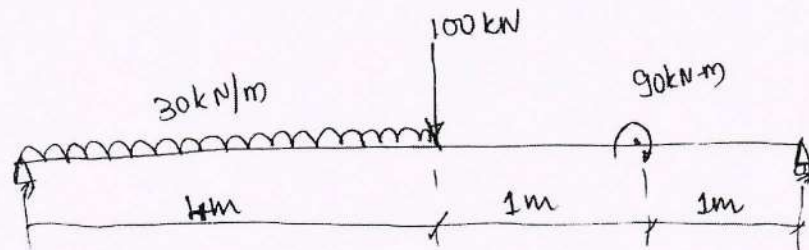

Fig.Q5(b)
- b. Calculate SF and BM at salient points and draw SFD and BMD for the beam shown in Fig.Q5(b).